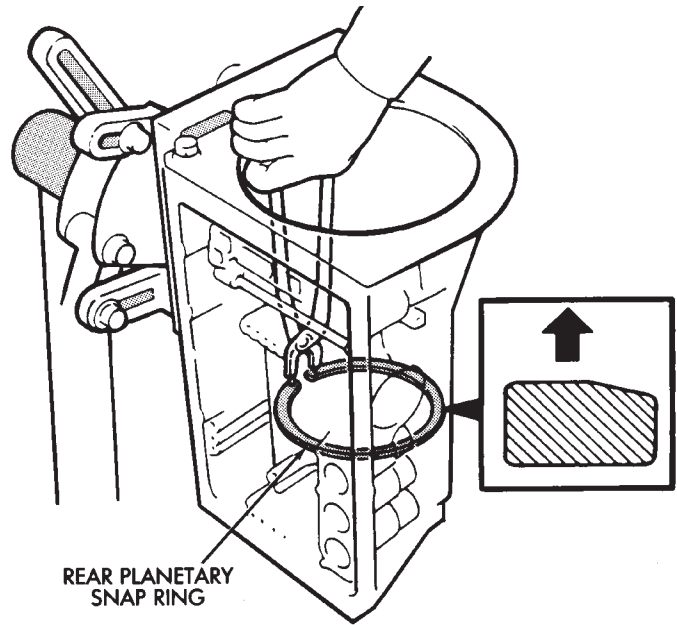

Fig. 6 Installing Planetary Snap Ring
(9) Install rear planetary snap ring with snap ring pliers. Chamfered side of snap ring faces up and toward case front (Fig. 6).